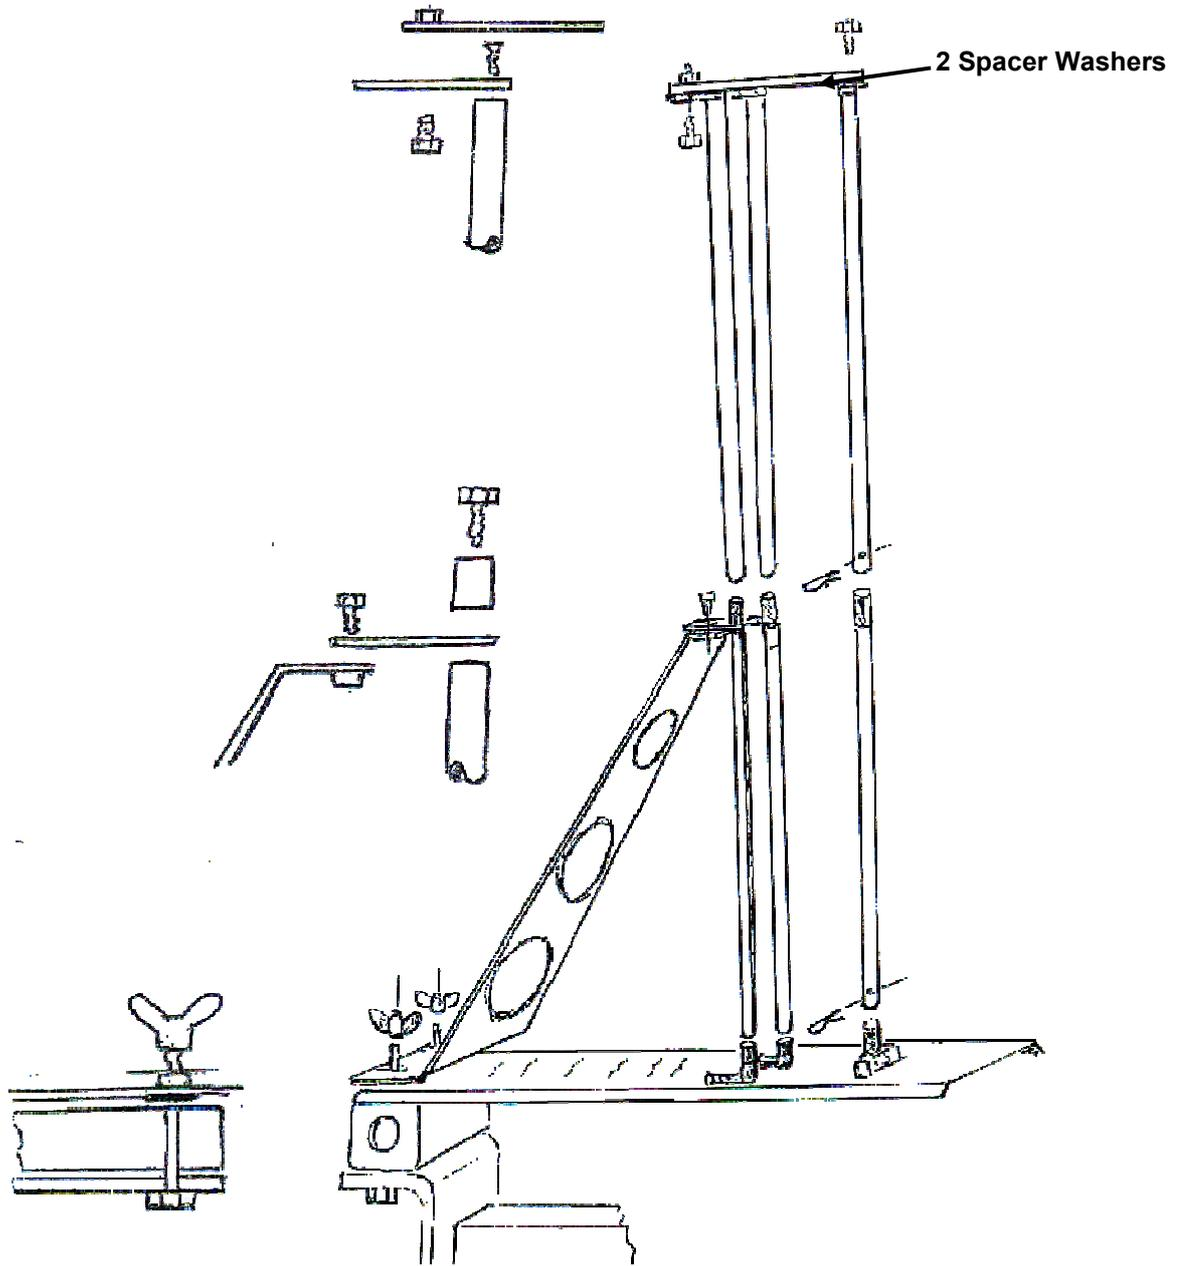

Fig 9
Attach by inserting the Brass Support Plate at the front of the top plate into the top hat (37) now fitted on the main shaft. At the same time slip the support block (41) at the other end of the plate. Locate the securing bolts and loosely do up. Note: - Fit bolts with their heads underneath and nuts on top. Shim with washers if necessary to provide suitable clearance for the throwing arm. (See Fig 9 Page 11).
Find two open-ended rods with no cross drillings. Fit Rod Adjusting Arms to the ends of these rods with countersunk screws. The cross-drilled rod should be fitted to the front hole in the Horseshoe Plate (56) (See Fig 9 Page 11) Finally attach the rear rods to the Horseshoe by the Adjusting Arms with the screws provided. This assembly can be used as it is for 50-clay capacity. It is unnecessary to use the support bracket for this. To increase the capacity to 100 clays (approx.) unclip the 50-clay hopper and add three extension rods to raise the height and brace the centre with the support bracket. Check that the 'R' clip holes are in-line crosswise.
For 100 Clay operation the extension rods (54) will be required and supported in the centre by the Hopper Support Bracket (57) (Fig. 9).